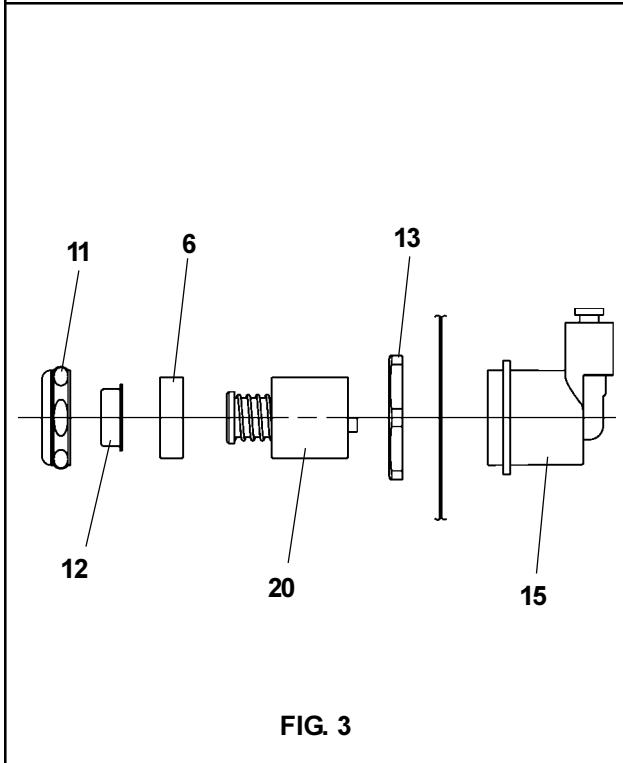

FIG. 3
STREAM HEIGHT ADJUSTMENT: Stream height is factory set at 35 PSI. If supply pressure varies greatly from this, remove items 11 and 12 (See Fig. 3) and adjust screw on item 20. Clockwise adjustment will raise stream and counter-clockwise adjustment will lower stream. For best adjustment, stream should hit basin approx. 6-1/2" from bubbler.